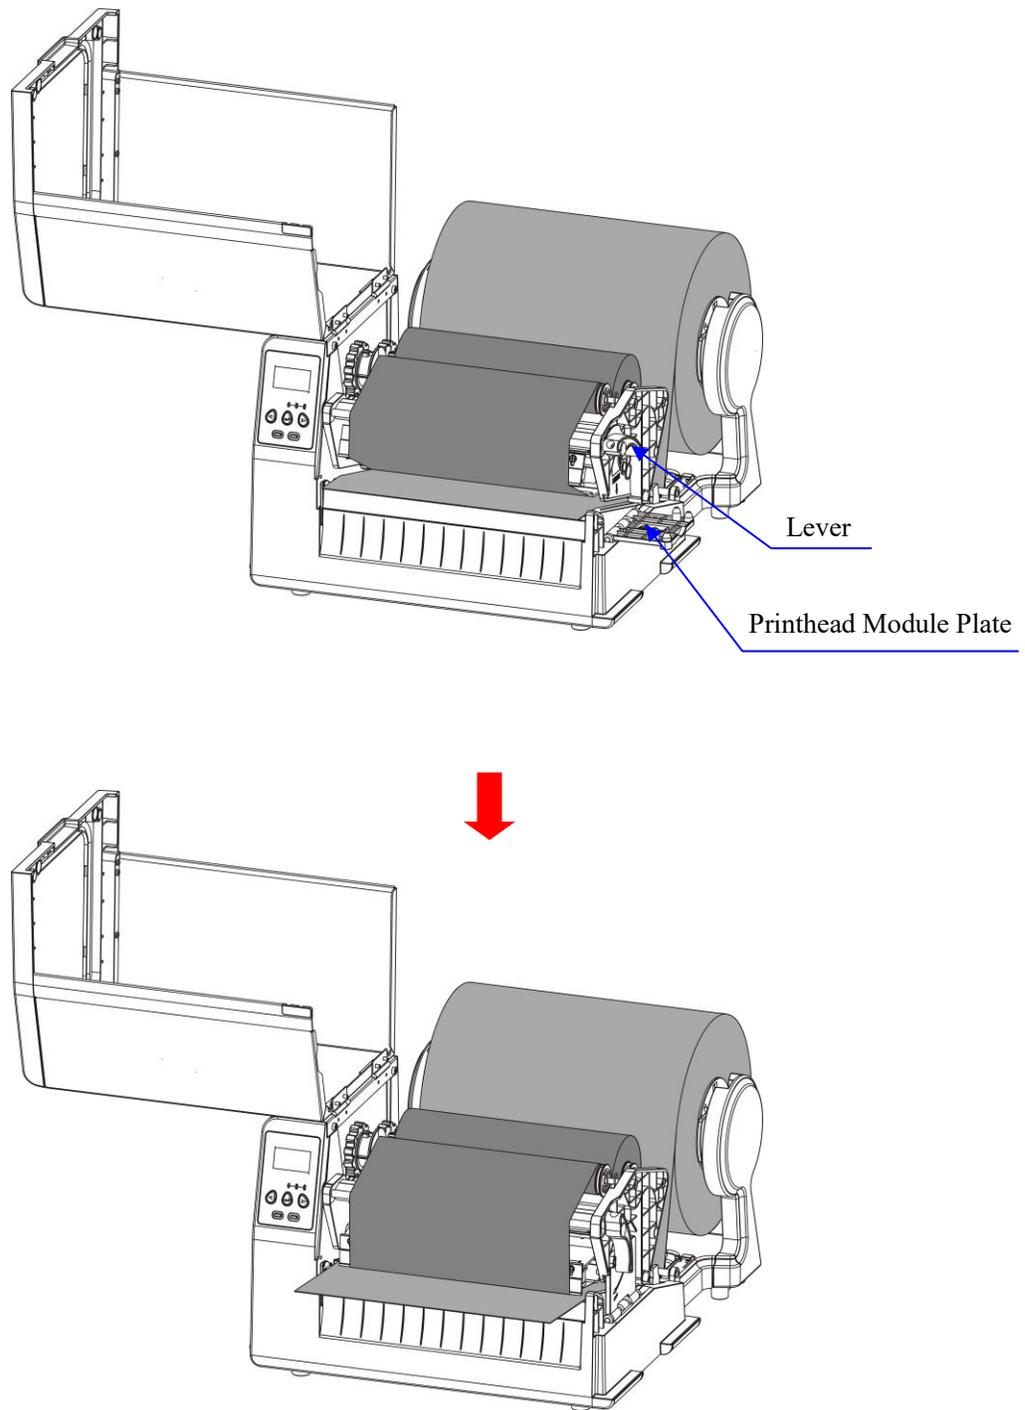

Figure 2-17
8. Pull the media pass and under the Printhead Module and on the tear bar, and use the scale on the tear bar to position the media in the middle. Then close the printhead module plate and turn the Lever clockwise to lock the Printhead Module. See Figure 2-17.